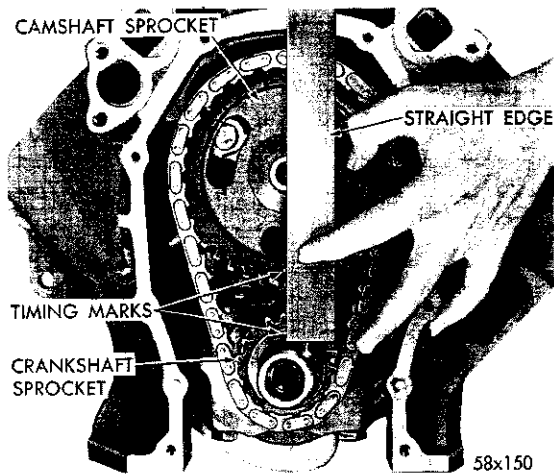

Fig. 22—Inspecting Alignment of Timing Marks Using a Straightedge
(1) Place both the camshaft sprocket and crankshaft sprocket on the bench with timing marks on exact imaginary center line through both camshaft and crankshaft bores.
(2) Place the timing chain around both sprockets.
(3) Turn the crankshaft and camshaft to line up with the keyway location on the crankshaft sprocket and the dowel holes in the camshaft sprocket.
(4) Lift the sprockets and chain (keep sprockets tight against the chain in position as described).
(5) Slide both sprockets evenly over their respective shafts.
(6) Use a straight edge to measure alignment of the timing marks (Fig. 22).
(7) Install the washer and camshaft sprocket bolt